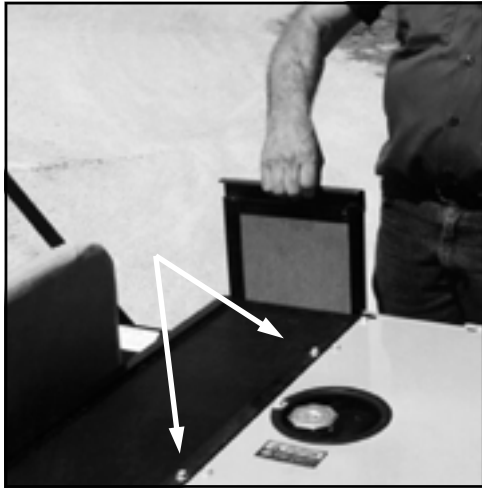

FIG 8.17
**REMOVAL** - The side grille screens are easily removed by sliding them up out of their housings (fig. 8.17). The top screen is held in place by two bolts (fig. 8.17) and may also be removed for cleaning.